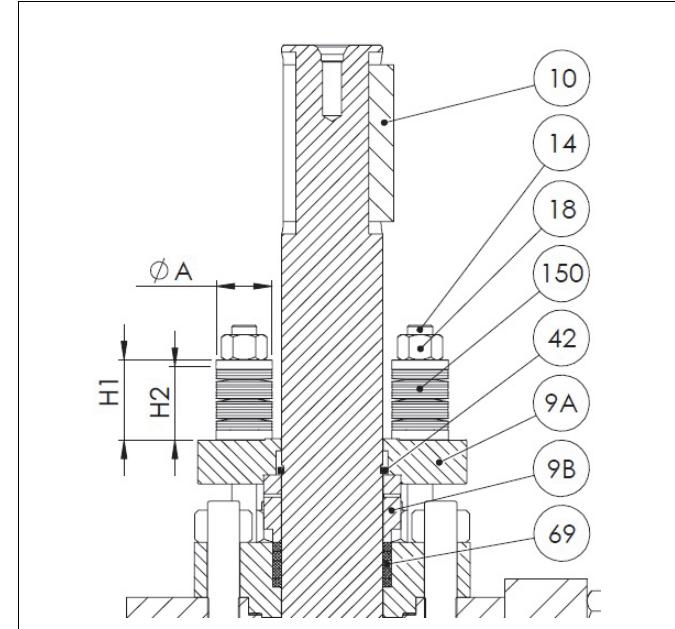

Fig. 10 Gland packing
- Remove the key (10).
- Remove the nuts (18), the disc spring sets (150) the gland (9A), retainer ring (42) and sleeve (9B).
- Remove old packing rings (69). Do not damage the surfaces of the packing ring counterbore and shaft.
- Place the new packing rings (69) over the shaft (5). The gland follower may be used for pushing the rings into the counterbore. Do not damage packing rings in the shaft keyway.
- Pre-compress the packing rings first either by tightening the gland nuts (with or without disc springs) to the torque  $T_t$  or by tightening the gland with disc springs to the height  $H_2$ . See Fig. 10 and the value from Table 1.
- Loosen the gland nuts. Place the disc spring sets (150) on the gland studs as applicable. Retighten the nuts (18) to the torque  $T_t$  so that the disc springs are compressed to the height  $H_2$ , see Table 1.